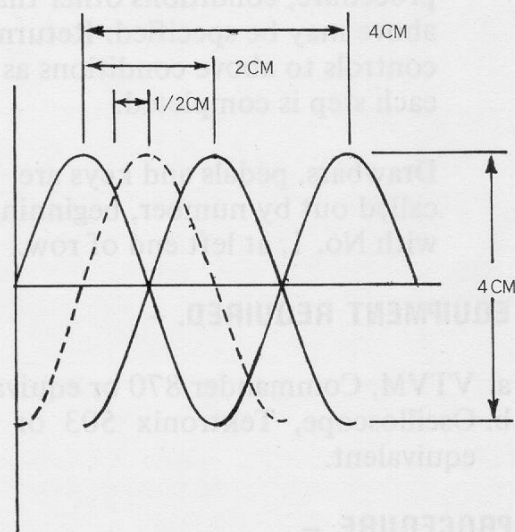

Figure 4-1. Vibrato Adjustment Waveform
- i. Depress the VIBRATO NORMAL tab. Adjust the VIBRATO WIDTH control for a total phase shift swing of 2 cm. (refer to Figure 4-1). If VIBRATO WIDTH control does not give satisfactory result, select R133, Figure 5-1 through 5-4 between 220 $\Omega$  and 1K.
- j. Release VIBRATO NORMAL tab. Single wave must be centered  $\pm \frac{1}{2}$  cm. as shown in Figure 4-1.